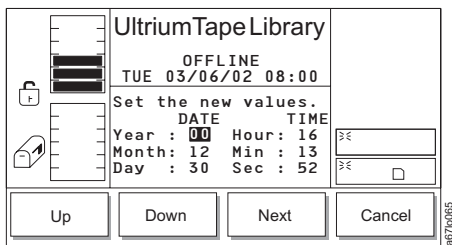

Figure 4-112. Date/Time Dialog
3. Press the button below the **Date/Time** softkey. The Date/Time Dialog displays (see Figure 4-112) with the following information: